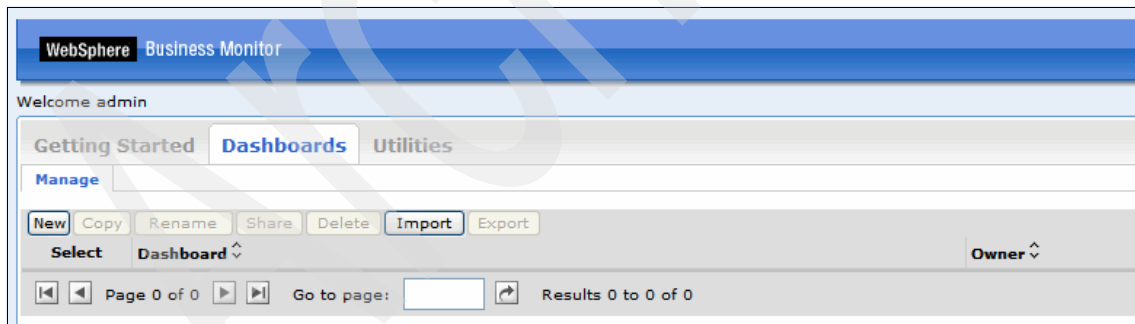

Figure 6-66 Creating a new dashboard
3. Click the **Dashboards** tab, and click the **New** button (Figure 6-66).